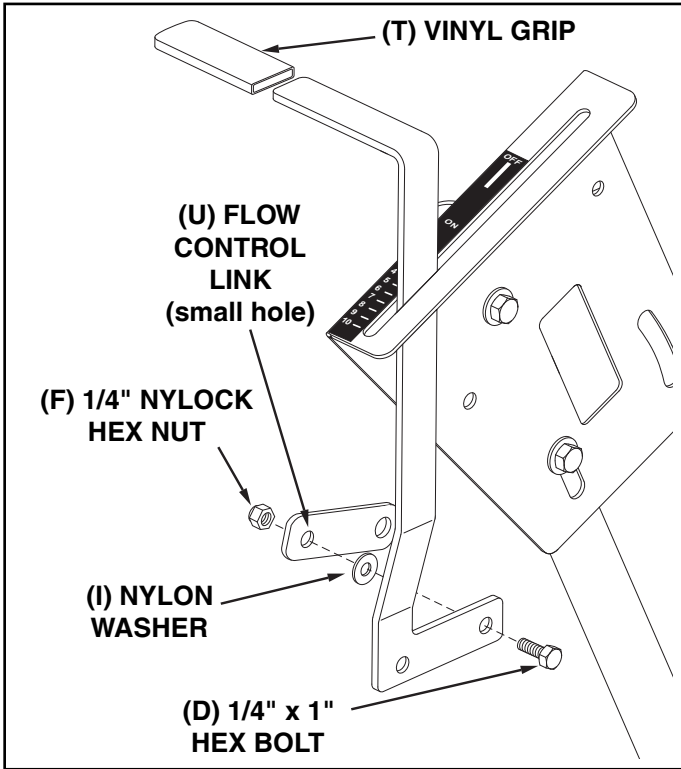

FIGURE 8
17. Assemble the vinyl grip (T) onto the flow control arm. See figure 8.
18. Insert the flow control arm down through the slot in the flow control bracket. Assemble the small hole of the flow control link (U) to the flow control arm using a 1/4" x 1" hex bolt (D), a nylon washer (I) and a 1/4" nylock hex nut (F) as shown in figure 8. **Tighten carefully.** The flow control link should be snug but should pivot with no more than slight resistance.